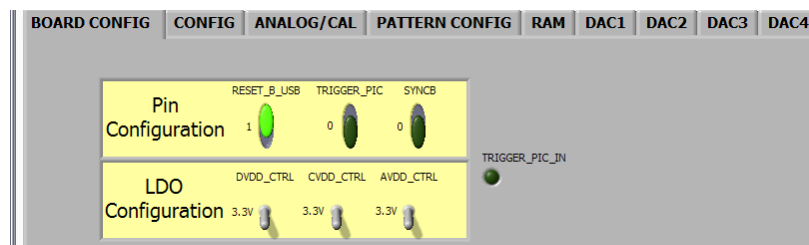

Figure 11 :AD9102 Evaluation software BOARD Config TAB
The BOARD CONFIG tab can be used to configure the evaluation board for power supply and signal levels – Figure 11.
1. Set the voltage of the DVDD and CVDD regulators on the AD9102 evaluation board to 1.8V on the BOARD CONFIG tab of the AD9102 evaluation software – see Figure 11. This will assure that SPI communication and the AD9102 clock power supply pins are powered with 1.8V